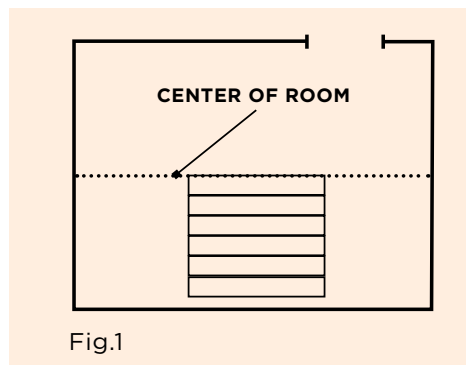

Fig.1
- Determine the long direction of the plank to be installed (preferably paralleled to windows where light enters the room). Find and mark the center of each of the end walls perpendicular to the plank long direction. Connect these two points by striking a chalk line. See Fig. 1